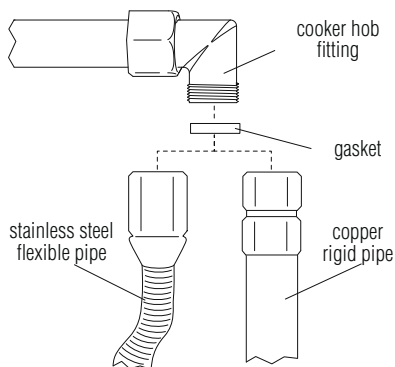

Fig. 6: connection to the gas supply network
**The connection to the gas supply network** can be completed using **rigid copper piping** or **with a continuous flexible steel pipe** on the wall, according to established regulations that are parts of the regulations in force [Fig. 6]. In any case **every pipe connected to the gas supply network must be equipped with a safety interception valve**.